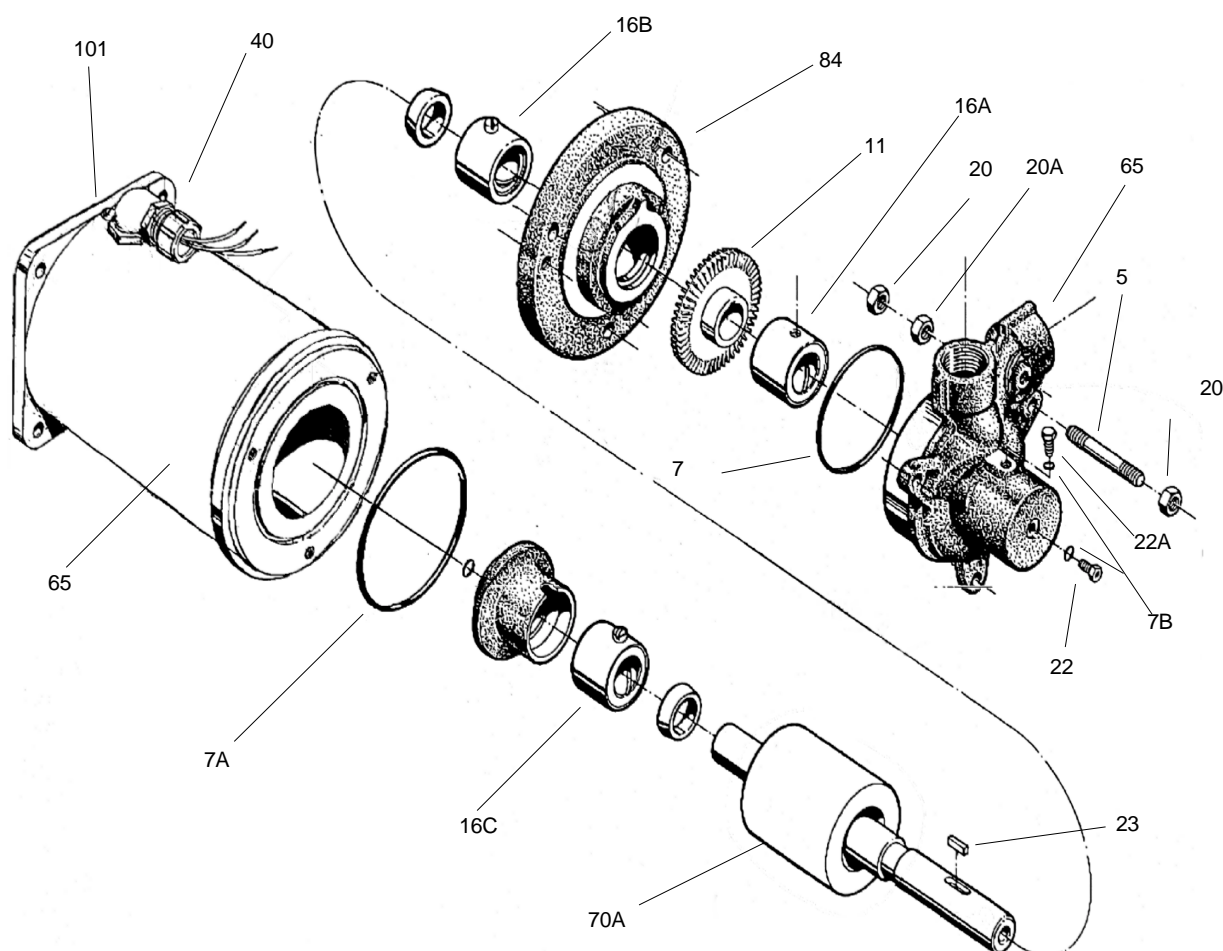

Figure 4-9
An exploded view of the unit, figure 4-9 is provided for referencing the numbers in the following procedures, i.e. (#84), motor bracket.
Refer to figure 4-9 for reference to the numbered parts in the procedures below.
8. Remove the three jam nuts (#20A) and the other three nuts (#20) using a 9/16" wrench and slide off the motor bracket (#84). DO NOT loosen, tighten, or turn the three 3/8-24 setscrews (#15) in the motor bracket, refer to figure 4-9. These are used to set the motor bracket true with the shaft. If these are disturbed, it will be necessary to follow the "Motor Bracket Setup Procedure" when reassembling the pump, as outlined in section 4E Reassembly.
6. Install the motor bracket (#84) over the three studs (#5) so that the water stop is oriented on the same side as the motor conduit connection, refer to figure 4-9. Be certain to orient the cartridge bearing (#16B) on the shaft so that the screw head slides into its groove in
8. Install the O-ring (#7) over the motor bracket. Refer to figure 4-9.
14. Place the pump body over the three studs, aligning the water stop on the motor bracket with the water stop on the body. The pump inlet should be in line with the conduit connection on the motor, refer to figure 4-9. Some pressure may be required to push to pump body over the O-ring on the motor bracket. Be careful not to pinch and damage the O-ring.